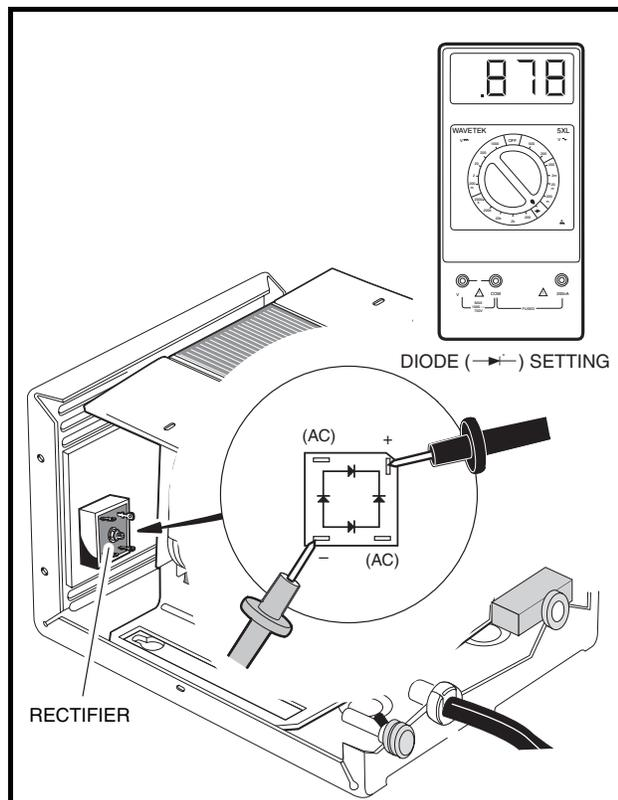

Figure 6-12 Rectifier Test
3. Disconnect all four wires from the rectifier (**Figure 6-12, Page 6-16**).
4. Using a multimeter set to the diode test function ($\rightarrow|$), place the black (-) probe of the multimeter on the positive (+) terminal of the rectifier. Move the positive (+) probe to each of the remaining three rectifier terminals and note the readings (**Figure 6-12, Page 6-16**).